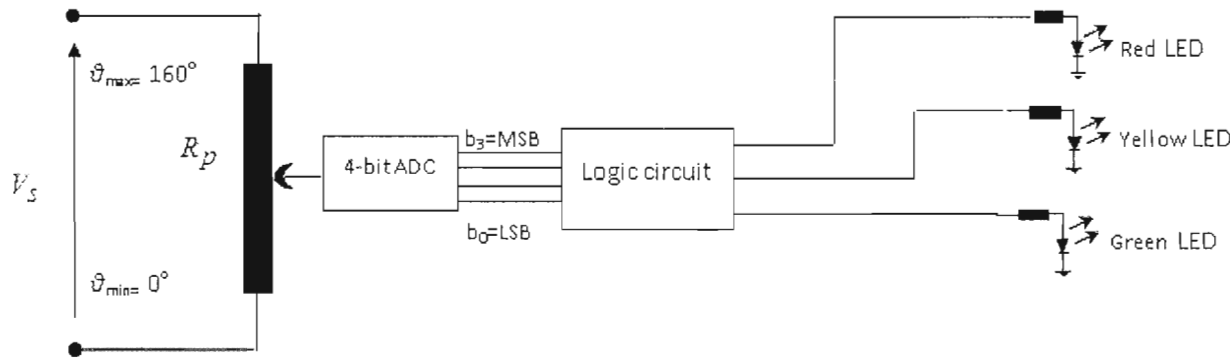

Figure 4.1 Logic circuit and LEDs.
- c. The output of the potentiometer is now converted to digital format using a 4-bit ($b_3 b_2 b_1 b_0$) analogue-to-digital converter (ADC), which drives a logic circuit, controlling red, green and yellow LEDs, figure 4.1. The logic circuit was designed in order to ensure that:
- (10)